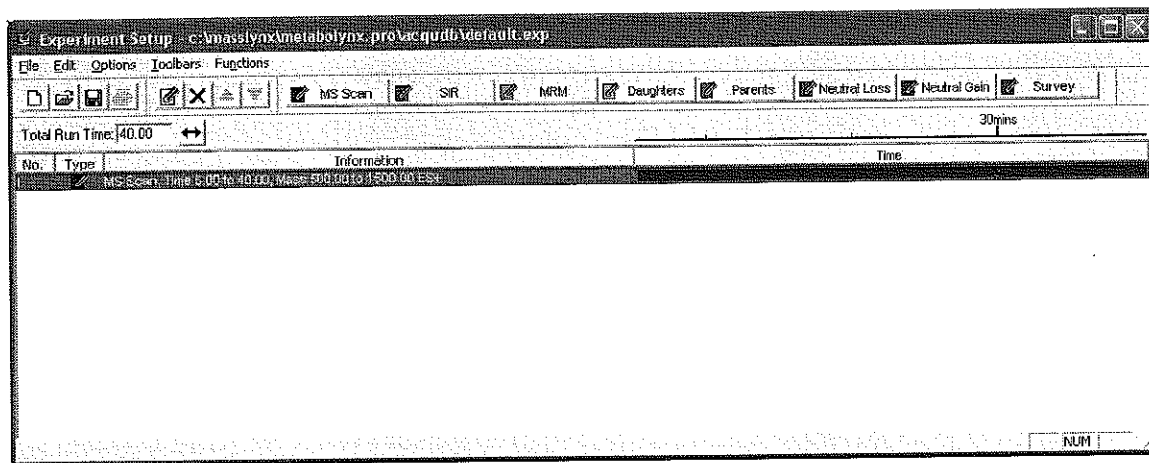

Figure 3-7 MS Method Editor
1. In the MassLynx window, click the MS Method icon to open the MS Method Editor (Figure 3-7).